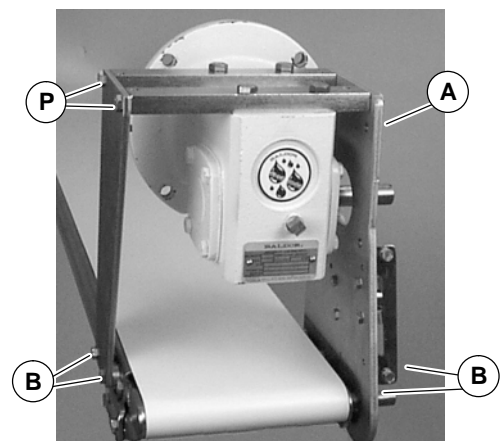

Figure 4
- 4a. For 102mm and wider conveyors, loosen (but do not remove) screws (P of Figure 4). Attach top mount assembly (A) to conveyor with screws (B). Tighten screws (B) and (P) to 10.4 Nm.